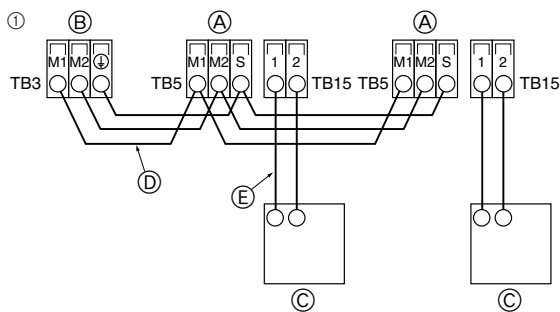

Fig. 6-3
① MA Remote controller (Fig. 6-3)